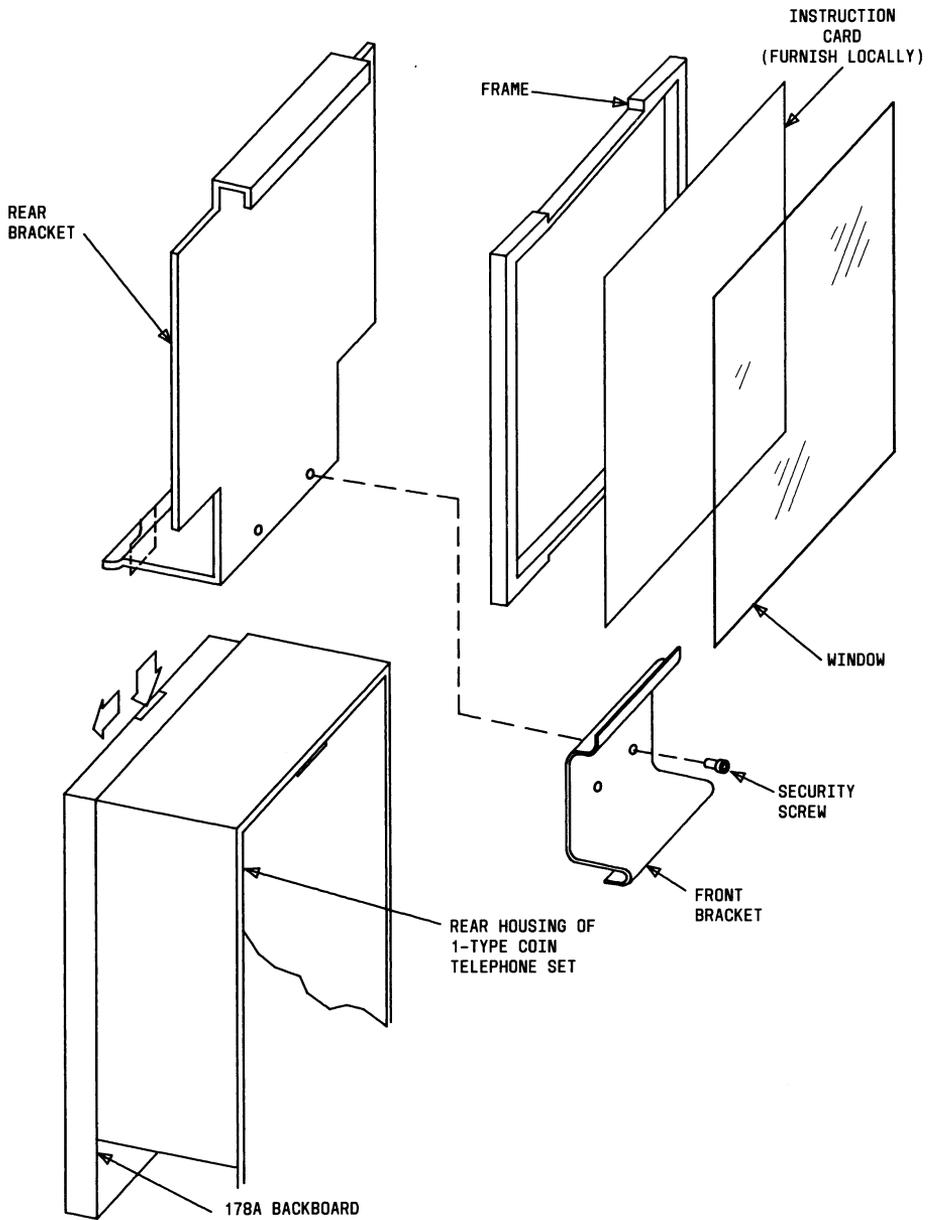

Fig. 23—Installation of 11A Card Holder
3.30 Install as follows (Fig. 23).